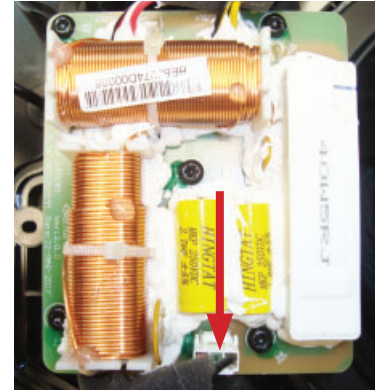

Figure 21
5.3 Remove the input connector from the crossover as indicated by the red arrow in Figure 21.